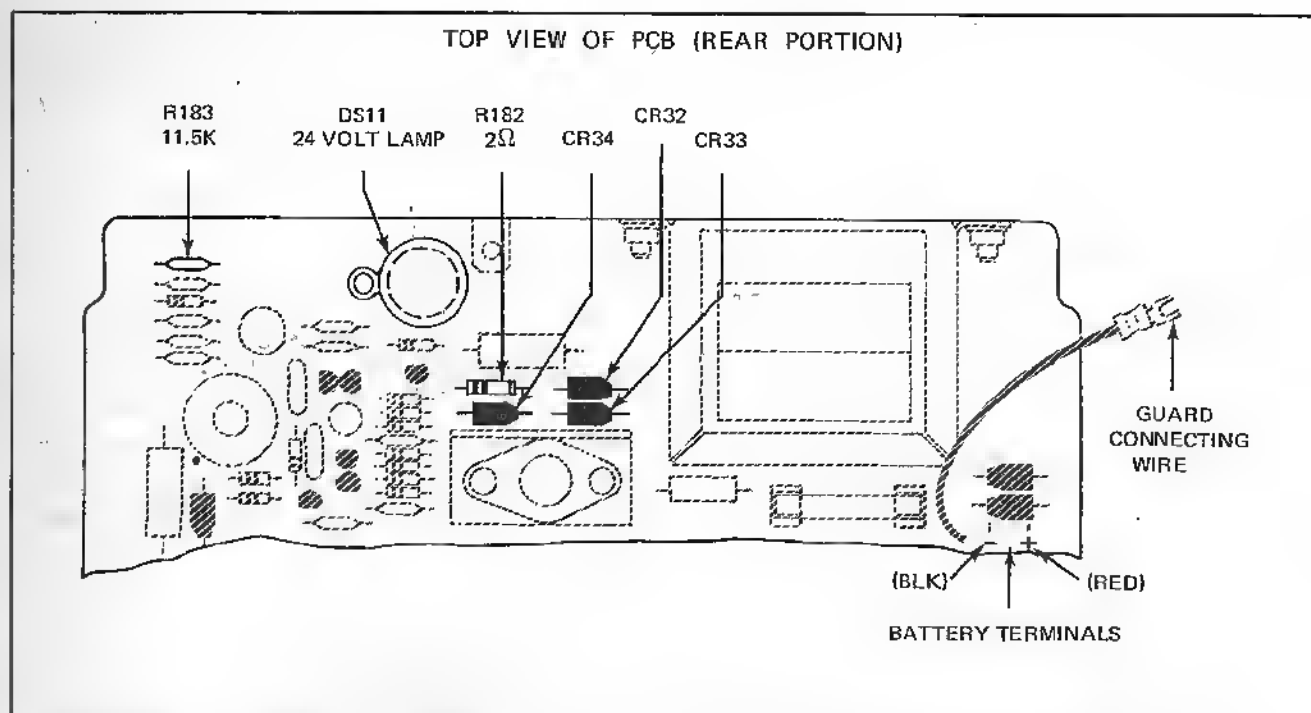

Figure 6-7. COMPONENT LOCATIONS FOR MODEL 8100A-01K BATTERY OPTION KIT INSTALLATION
- c. Install and solder the 2 ohm and 11.5k ohm resistors on the PCB at the locations shown in Figure 6-7.
- d. Install and solder the three diodes on the PCB at the locations shown in Figure 6-7. Be sure that the diodes are oriented according to the anode-cathode markings that are etched on the PCB.
- e. Install and solder the ballast lamp on the PCB at the location shown in Figure 6-7. Three solder connections are required: The anchor lug on the component side of the PCB should be soldered to the side of the lamp base once the lamp is in position, and the two lamp terminals should be soldered from the underneath side of the PCB.
h. Replace the top guard and connect the battery leads to battery terminals at the right-rear of the PCB as shown in Figure 6-7. Red lead to + terminal and black lead to other terminal.